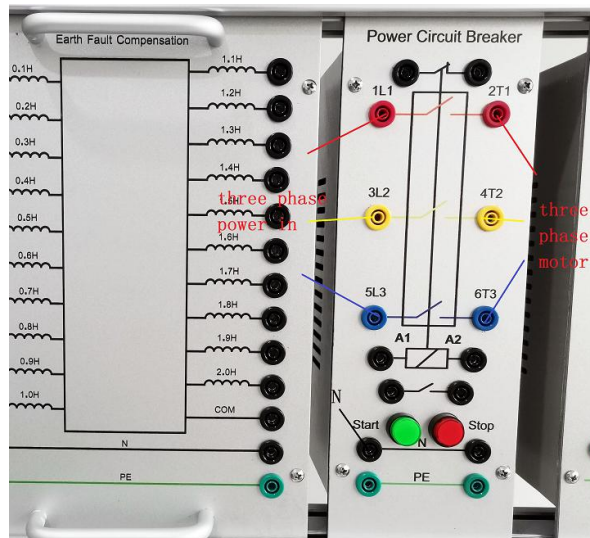

Fig.1.4.1(a)
- 1) The wiring diagram of the three-phase alternator drive circuit is shown in Figure 1.4.1(a).
- 2) According to Figure 1.4.1 (a) - Figure 1.4.4 (d) wiring experiment circuit